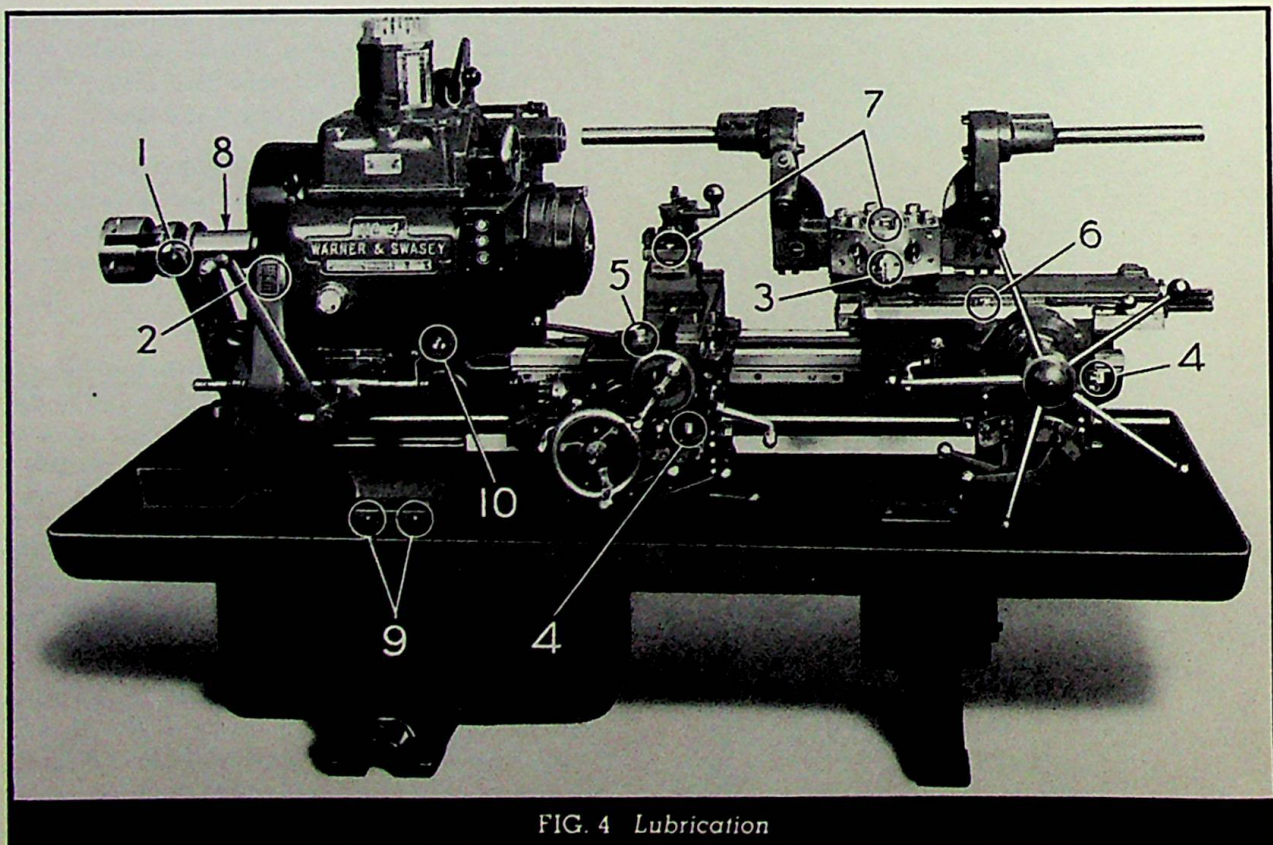

FIG. 4 Lubrication
On some Warner & Swasey Turret Lathes there is an instruction plate, (2), Fig. 4 which gives complete information for proper lubrication of the machine. If your machine does not have a lubrication instruction plate, the following instructions should be used as a guide:
chine or use a power grease gun if available. Be sure to grease the fitting inside of hexagon turret center hole (3), Fig. 4 and if bar equipment is furnished, look for two fittings (front and rear) on upper end of wedge shifter fork at left hand end of spindle (1), Fig. 4.
3. Grease three fittings located in round grease block below head on front of machine (10), Fig. 4. These carry grease to rear of machine to lubricate the coolant pump and headstock lubricating pump.
5. Fill worm troughs (4), Fig. 4 generously in both aprons through oilers with same grade of oil as is used in headstock.
6. Move cross slide all the way in and then fill the plunger pump (5), Fig. 4 FOUR TIMES with oil. Force the oil down by inserting plunger and pushing it all the way down each time. This pump delivers oil to the front and rear bedways, the cross slide ways, and the cross feed screw and its nut.
7. Fill oil cups on front and rear of turret slide caps (6), Fig. 4.
8. Fill oil cups on top of hexagon turret and on the square turret (7), Fig. 4.
9. On machines with bar chucks, apply a mixture of graphite powder and machine oil to the left hand end of spindle where the hardened wedge (or spool) slides (8), Fig. 4. Do this for several days until these units are thoroughly burnished or "run in."
The left hand (head end) leg of the bed is bolted to the floor leg directly, while the pan can slide a limited amount between the two to allow the pan to expand or contract without affecting the bed alignment. This slip joint is packed in waterproof grease and should not require attention. If, however, slight leaks should ever develop, remove the four $\frac{1}{4}$ " pipe plugs in the bed leg near the pan (9), Fig. 4, insert a grease fitting and apply waterproof automobile water pump grease, available in most automobile service stations.